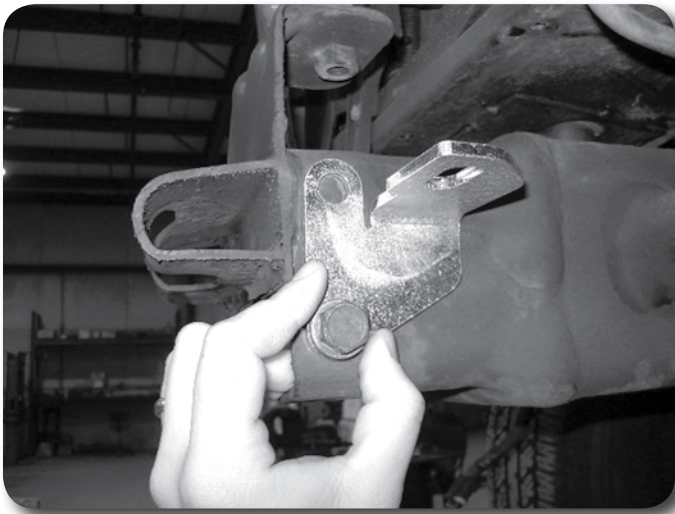

Figure 21 - Pass Side Shown
46. Locate the new front bumper brackets. They are driver's and passenger's side specific. The straight edge/holes go toward the front and the tab points inward. Line the lower mounting hole of the new bracket with the factory tow hook hole (hole will be there regardless if the vehicle has tow hooks or not). Also, align the front vertical edge of the new bracket with the front face of the factory bumper bracket. Mark the second bracket mounting hole to be drilled. Drill 1/2" hole at mark. **Figure 21**